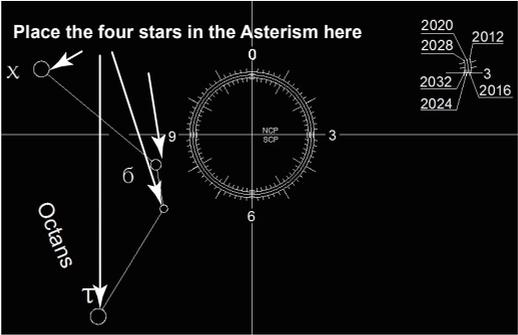

Fig 26
**For Observing in The Southern Hemisphere:** locate in the **Polar Scope** the 4 dim stars (Around Magnitude 5 to 6) which form the pattern “Octans” (see drawing in the **Polar Scope** as Fig 26). Align the orientation of the “Octans” drawing to the 4 stars. Then move the 4 stars to the 4 small circles of the “Octans” drawing by using the horizontal adjustment knob to fine-tune the **Equatorial Wedge** or by moving the tilt-head of your tripod.